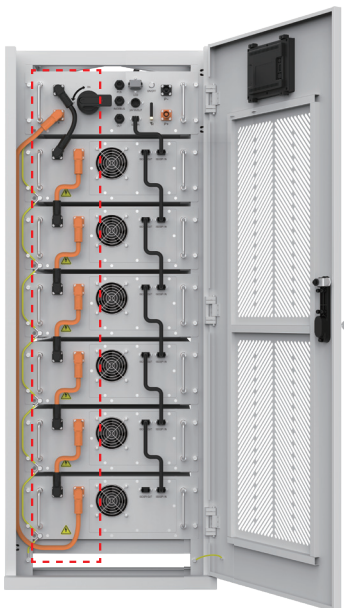

Figure 3
Step 3: Insert power cable from top to bottom as shown in Figure 3.